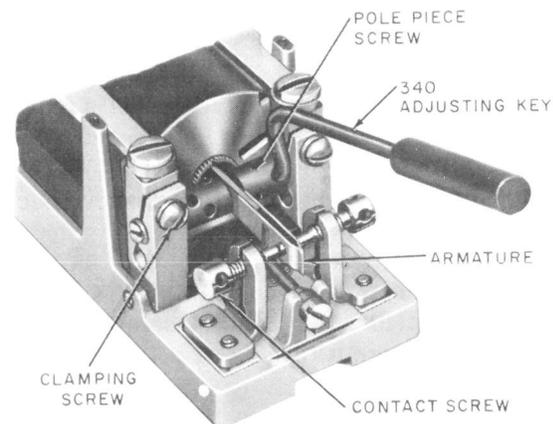

Fig. 8—Method of Adjusting Pole Piece Screws (Old Style Illustrated)
(3) The readjust operate and nonoperate current flow values for this adjustment appear on the first two lines shown on the circuit requirement table. Use the corresponding values in the case of parallel requirements.
(4) Adjust the relay for contact travel as covered in 3.11 and then proceed as follows.
(5) **▶ Preliminary Setting of Pole-Piece Screws:** (Fig. 8)